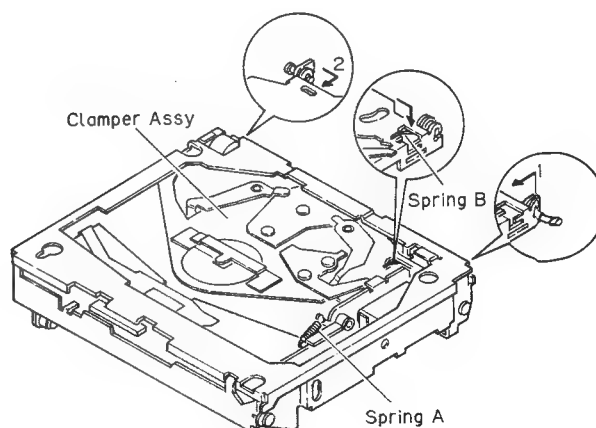

Fig.9
- 1.Remove the spring B as indicated by the arrow.(Fig.9)
- 2.Remove the spring A.(Fig.9)
- 3.Remove the engagement as indicated by the arrows 1 and 2, and then remove the clamber assy.(Fig.9)